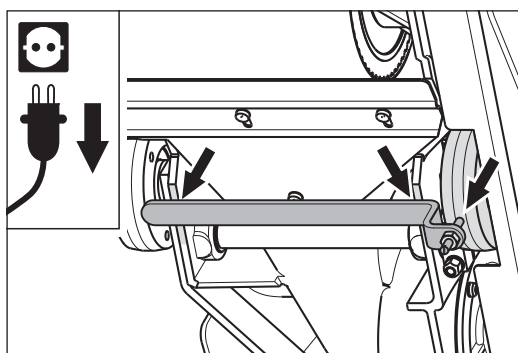
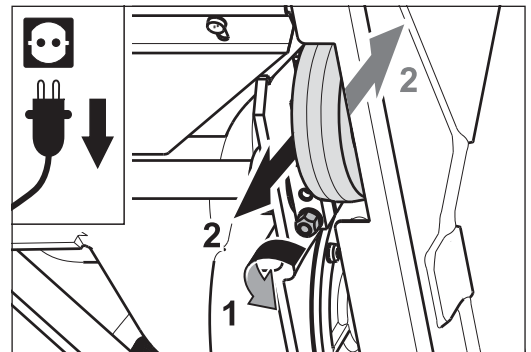

Fig. 44 Remove the current setting fixture from the right-hand wheel (seen from below).
Fig. 46 Release the screw on the right-hand wheel clamp (1) and adjust the wheel (2).
- 5 For setting, first take the actual position of the adjustable wheel using the setting fixture (see tool bag). Position the fixture against the machine housing in such a way that it rests not only against the machine housing on both sides, but also at the adjustable wheel (Fig. 44). If necessary, turn the threaded pin of the setting fixture. To do this, release the nut of the setting fixture.
- 7 Release the tension nut at the wheel clamp of the adjustable wheel (Fig. 46, 1) and place the setting fixture against the machine housing again (Fig. 44).
- 8 Set the wheel in the required position by means of the setting fixture (Fig. 46, 2) so that the wheel lining just still makes contact with the threaded pin when turning. Tighten the tension nut again.